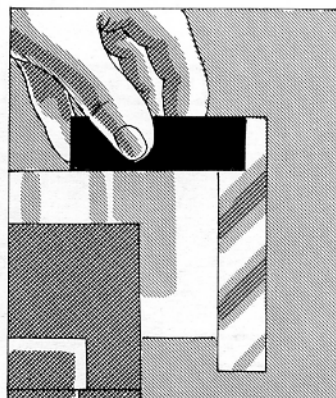

FIG. 312
12. Test the work with a steel square as shown in Figure 312 to see if the end has been planed square (at right angles) to the upper surface of the work.